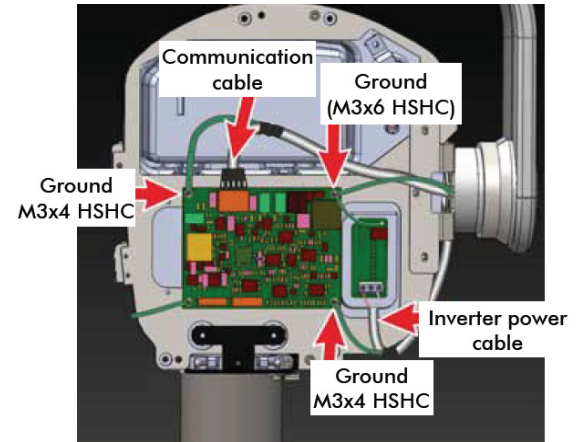

Figure 62
- Route the INV power cable as shown in the Figure 62 and connect it to the sealing board 3 pin connector (Pin 1 & 3). Hold the connector firmly while tightening the terminal screws.
- Using a 2.5mm allen key connect the GND ring terminal of the INV cable to the nearest control board fixing screw(M3x4 HSHC) as shown in the Figure 62 .
- Route the communication cable and connect it to the J4 connector of the control board as shown in Figure 62 .
- Using a 2.5mm allen key connect the GND ring terminal of the communication cable to the nearest control board fixing screw(M3x4 HSHC) as shown in the Figure 62 .
- Fix the scissor-arm grounding cable on the control board along with sealing board grounding cable with M3X6 Hex. Socket Head cap screw using 2.5mm Allen key as shown in Figure 62 .